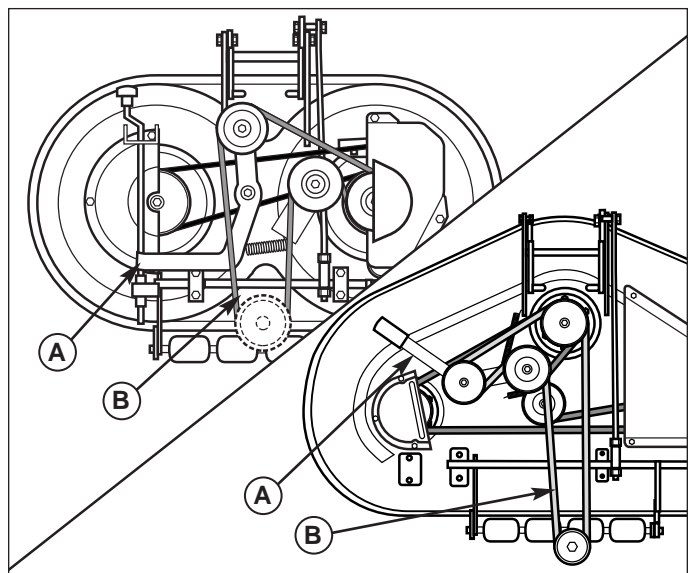

Figure 8. Mower Belt Routing
5. Use the spring loaded idler lever (A, Figure 8) to release tension on the PTO belt (B). Install the PTO belt.